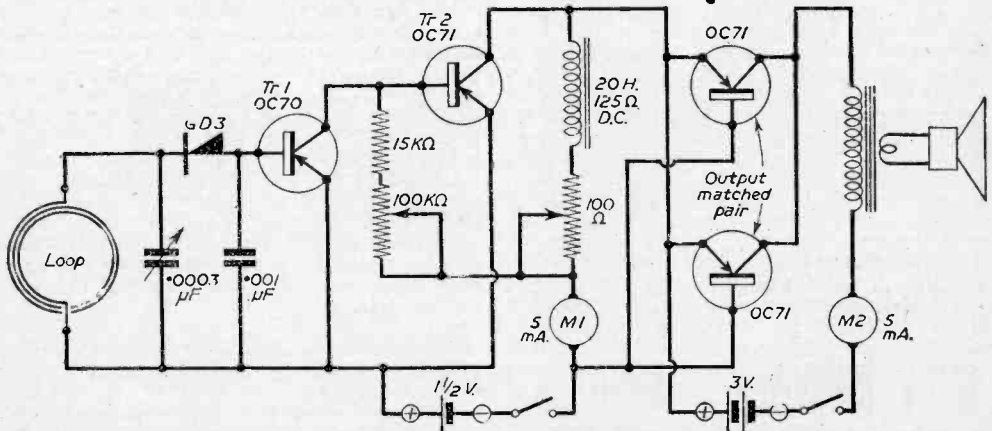

Fig. 6.—A direct-coupled circuit.
**Direct Coupling (Fig. 6)**
This circuit (which will be given next month) is more sensitive than No. 6, but it has no safety cut-off because transistor Tr1 is connected to Tr2 emitter instead of base. All transistors can be damaged by excessive input. Special mA meters must act as overload switches. It is shown for academic reasons and the novel biasing for OC70 and OC71. Biasing for OC72 is the same as in Fig. 6 except that the base is connected to the (-) on the 3-volt battery. Two identical chokes are shown, but the first receives much less audio wattage and can have a higher resistance. OC70 works on the flat part of the curve and the 100-ohm pot. is to move the working point only slightly away from zero. The diode is also more sensitive when a small bias current passes through. If more than 0.2 mA is passed, then sensitivity is reduced. Bias for OC71 and OC72 is by means of the 200-ohm pot. for a reading of about 1.4 mA on M2 and 2 mA on M3. Push-pull output can obviously be used. This circuit is quite good, it has been used several months, but is not recommended except for experts using only a loop, and perhaps a very loosely-coupled aerial coil with a very short aerial.